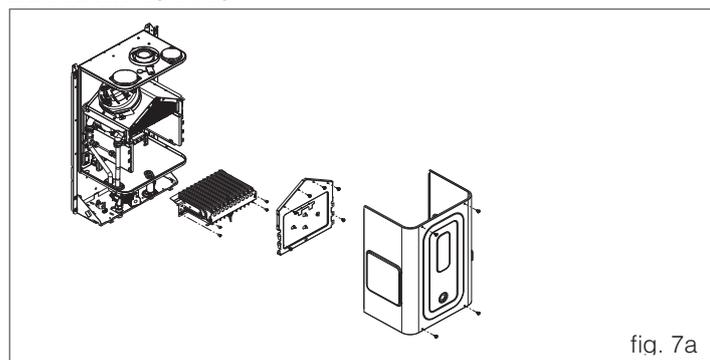

fig. 7a
- remove in this order: flue outlet and casing (as described in section 6), air tank cover and combustion chamber cover (fig. 7a-7b)